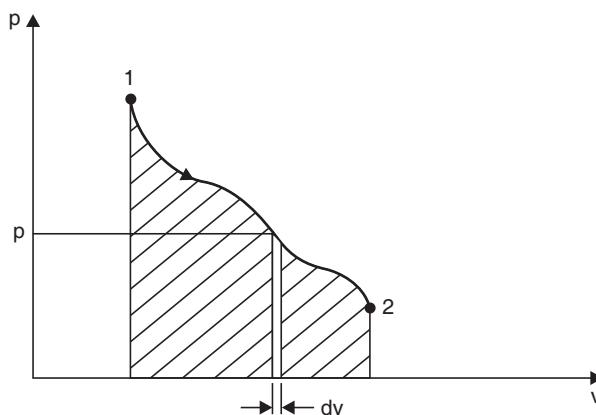

Fig. 1.32
When a fluid undergoes a reversible process a series of state points can be joined up to form a line on a diagram of properties. The work done by the fluid during any reversible process is therefore given by the area under the line of process plotted on a  $p-v$  diagram (Fig. 1.32).
i.e., Work done = shaded area on Fig. 1.32